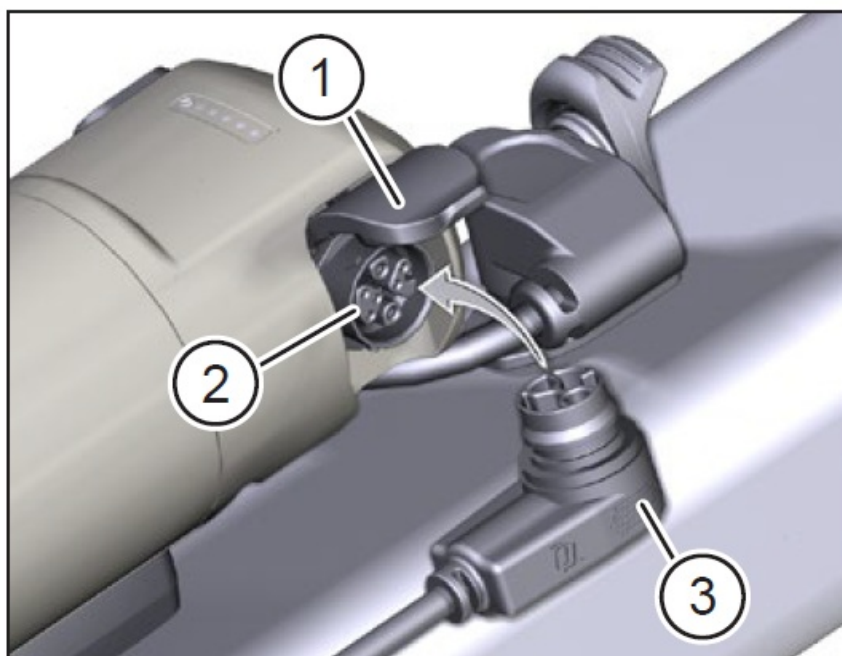

Fig. 9: Range Extender charging
- Unfold the cover (Pos. 1 in Fig. 9) on the charging port of the Range Extender.
- Check that the terminals in the charging port (Pos. 2 in Fig. 9) are free of dirt and clean them if necessary.
- Insert the charging plug (Pos. 3 in Fig. 9) of the charger into the charging port of the Range Extender.